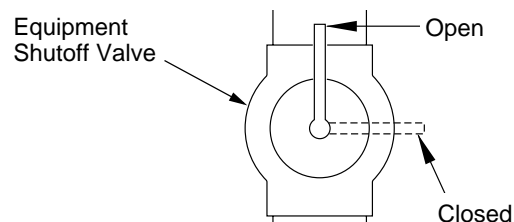

Figure 14 - Equipment Shutoff Valve
1. Close equipment shutoff valve (see Figure 14).
1. Open equipment shutoff valve (see Figure 14, page 9).